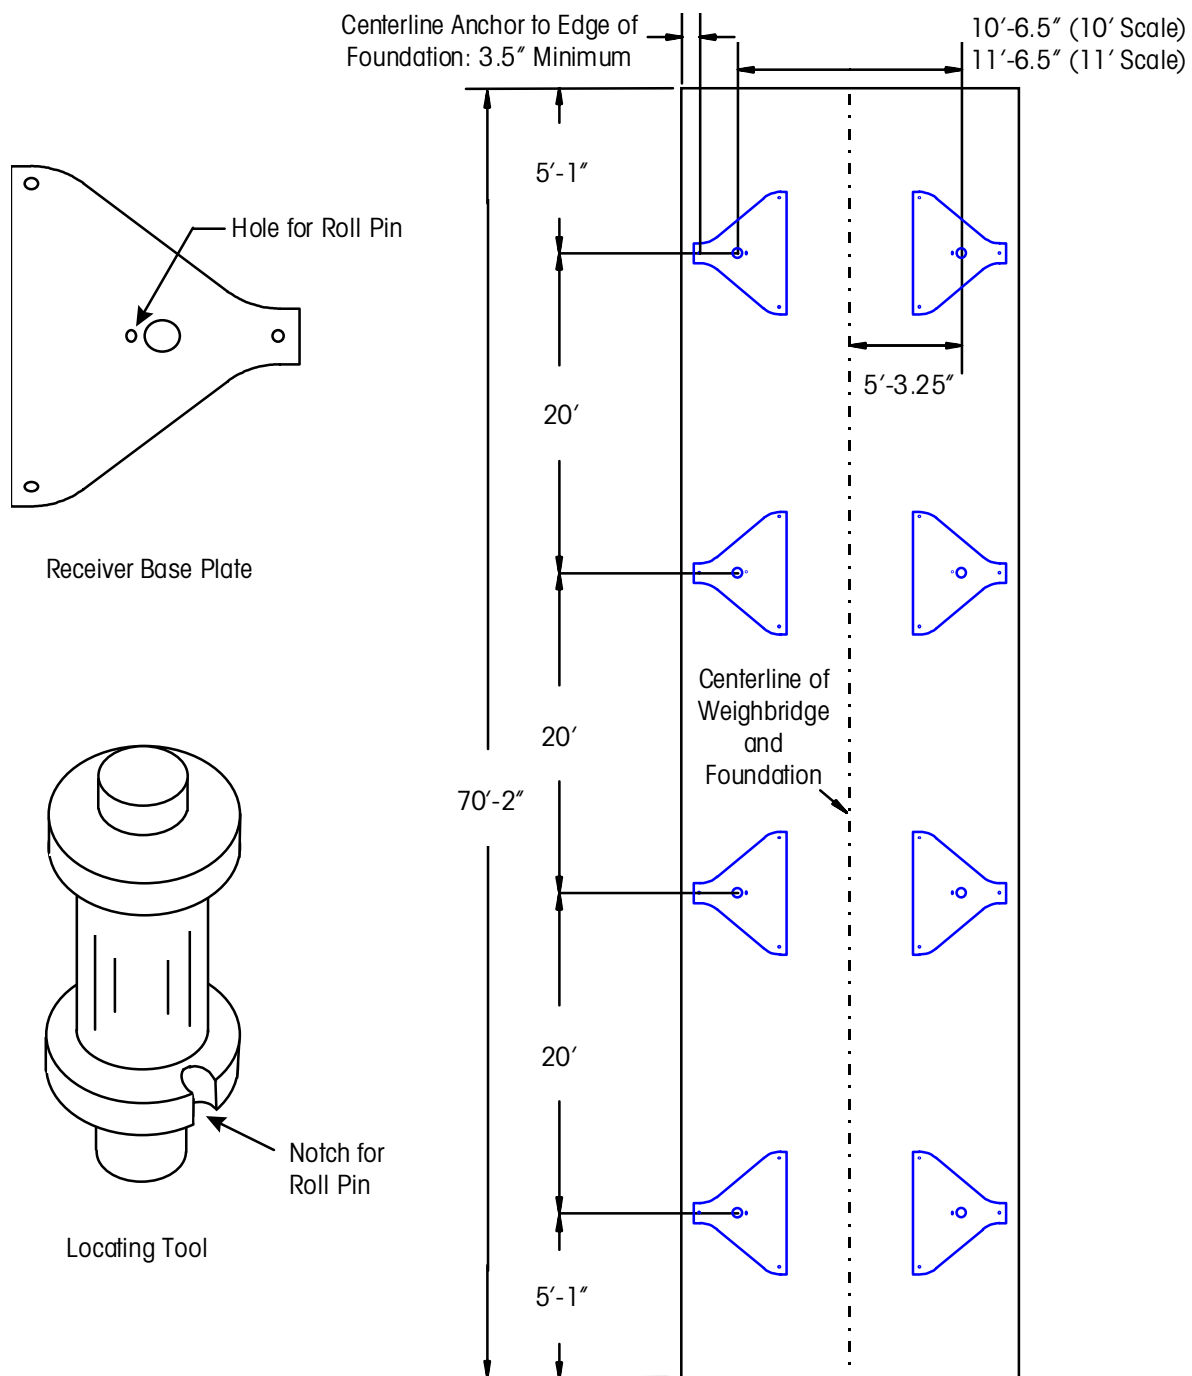

Figure 5-1: Base Plate Locations for Multi-Module Scale
5. Position the base plates on the foundation (see Figure 5-1). At this time, each base plate should be level, and all base plates should be in the same level plane.